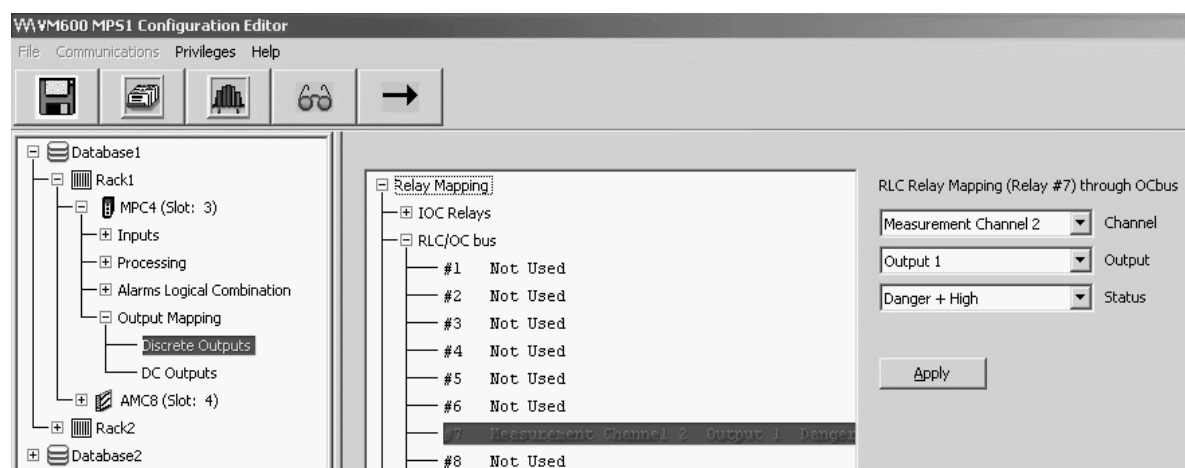

Figure 9-32: VM600 MPSx software window to configure the OC Bus
- 4- Using the VM600 MPSx software, select the **Discrete Outputs** node (a child of the **Output Mapping** node) in the tree structure (left). Then expand the **RLC/OC bus** node in the main window (right) and select the relay in question (between 1 and 16). See Figure 9-32.
The user must then use the VM600 MPSx software to select Relay 7 from the 16 relays available in the **RLC/OC bus** node. Then, the Danger+ alarm for Output 1 of Channel 2 can be assigned to this relay (see Figure 9-32).